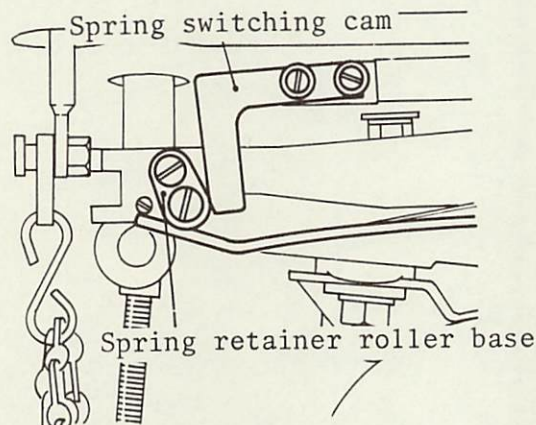

Fig.63
Adjust the spring switching cam either up and down or left and right so that the spring retainer roller base will move smoothly. Also, apply sufficient grease to the rim area of the roller base. (Fig.63)
- 3) When the work clamp foot does not go up at the stop-motion time, verify, besides the above causes, if the spring switching roller is moving the spring switching cam smoothly and if not, then adjust the spring switching cam(Fig.63) by moving it up and down.